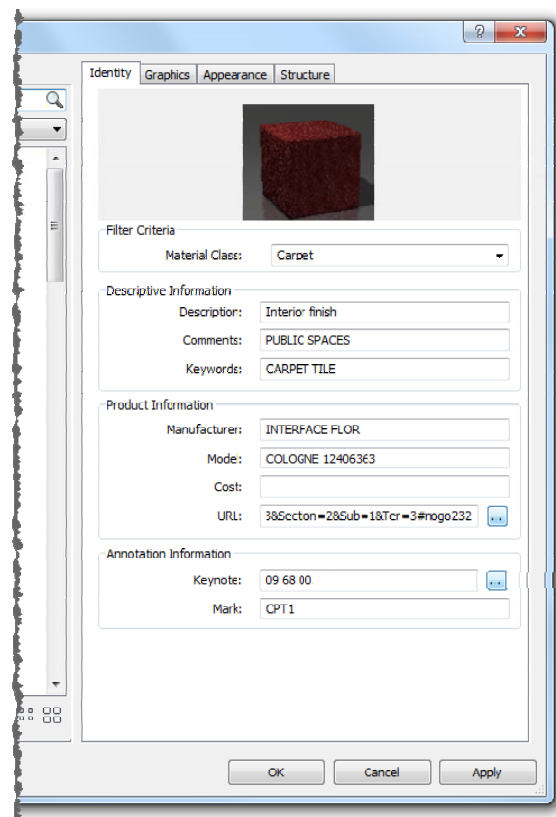

FIGURE 4-3.3 Editing CPT1 Identity data
13. In Revit, enter the information shown in Figure 4-3.3.